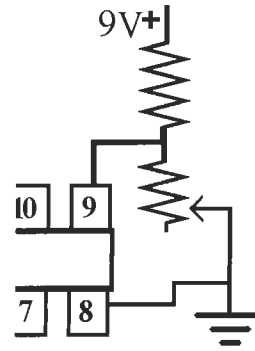

Figure L35-8
10. Modify your breadboard slightly to represent the changes shown in Figure L35-8. This allows you to adjust the voltage using a voltage divider. If the voltage is kept stable at the input to pin 9, what happens to the output at pin 4? _____